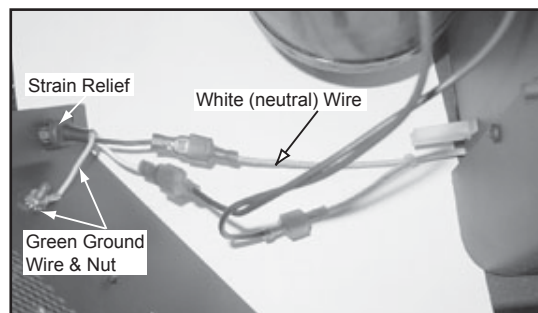

Figure 23.5
10. On the left side panel attach the power cord strain relief into the hole that is located on the lower left. Attach the ground terminal to the stud that is located nearest the power cord. **Figure 23.5.**
11. Attach the white lead (neutral) directly to one of the leads coming off the blower. Attach the other blower lead to the female spade connector to the harness that is routed under the unit. Attach the male spade connector on the harness to the black power wire (line). Route the wires into the wire clip that is located on the blower mount plate. **Figure 23.5.**